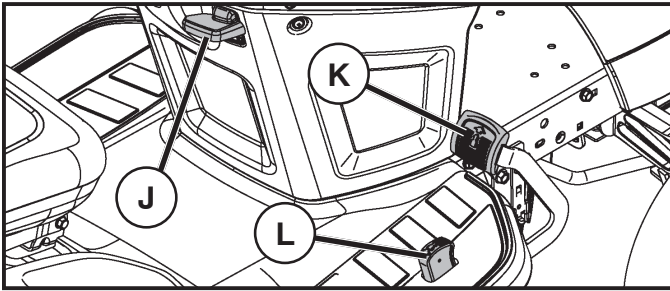

Fig. 7
### TO MOVE FORWARD AND BACKWARD (See Fig. 7)
## TO USE CRUISE CONTROL (J) (See Fig. 7)